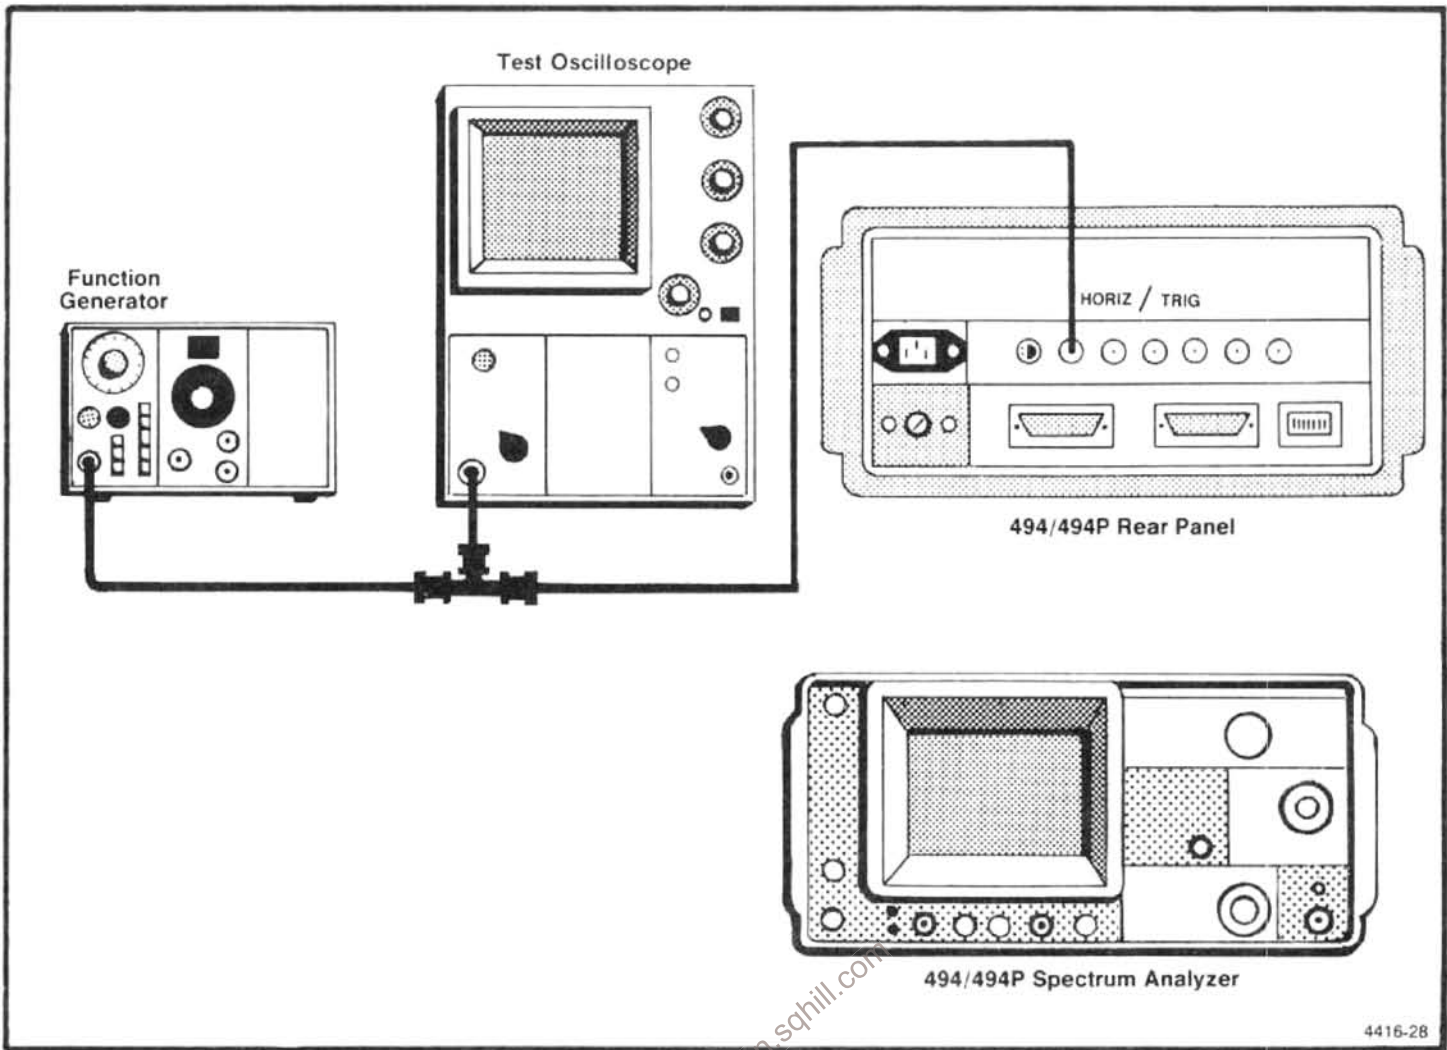

Figure 4-22. Equipment setup for checking external triggering and horizontal input characteristics.
g. Disconnect the test equipment. Apply a 1 kHz signal from the Sine Wave Generator, through a bnc "T" connector and coaxial cable, to the HORIZ/TRIG connector (on the back panel of the 494/494P (see Figure 4-22) Monitor the input signal amplitude with a test Oscilloscope.